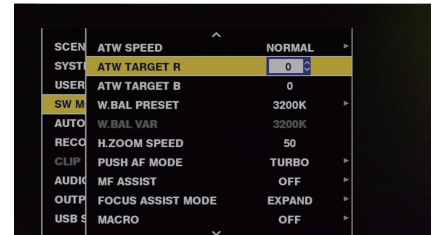
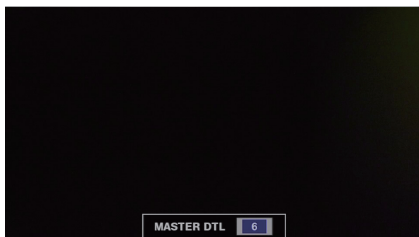

Fig. 3
Fig. 4
- In some menus, a screen for setting value is displayed on the menu screen (Fig. 3) or at the bottom of the screen (Fig. 4).